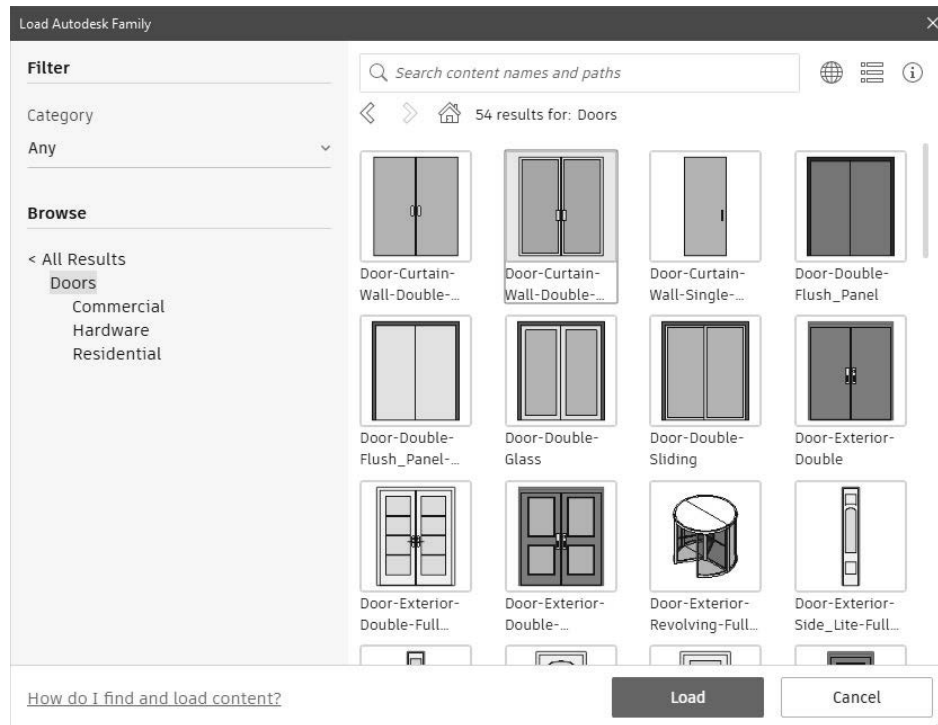

FIGURE 3-5.2 Door families on hard drive
4. Open the **Doors** category and then select **Door-Curtain-Wall-Double-Storefront**, and then click **Load** (Figure 3-5.2).